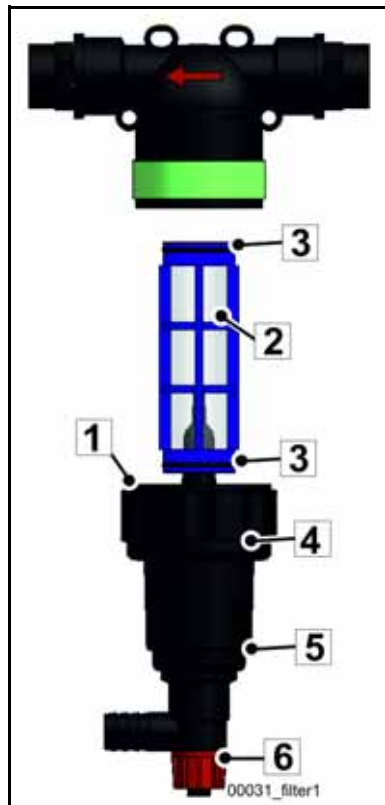

Fig. 485 Suction filter
- Loosen the housing (5) (**Fig. 485**) by hand.
- Remove the screen (2) (**Fig. 485**) from the housing of the suction filter.
- Check and replace the O-rings (1+3) (**Fig. 485**), if necessary.
Caption for suction filter (Fig. 485)